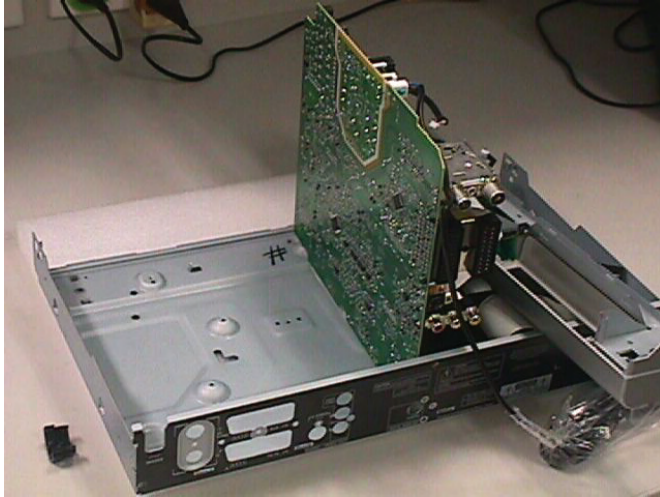

Figure 4-9
- 3) Service Position can be achieved by flipping the analog board to the Vertical Position as shown in Figure 4-9.